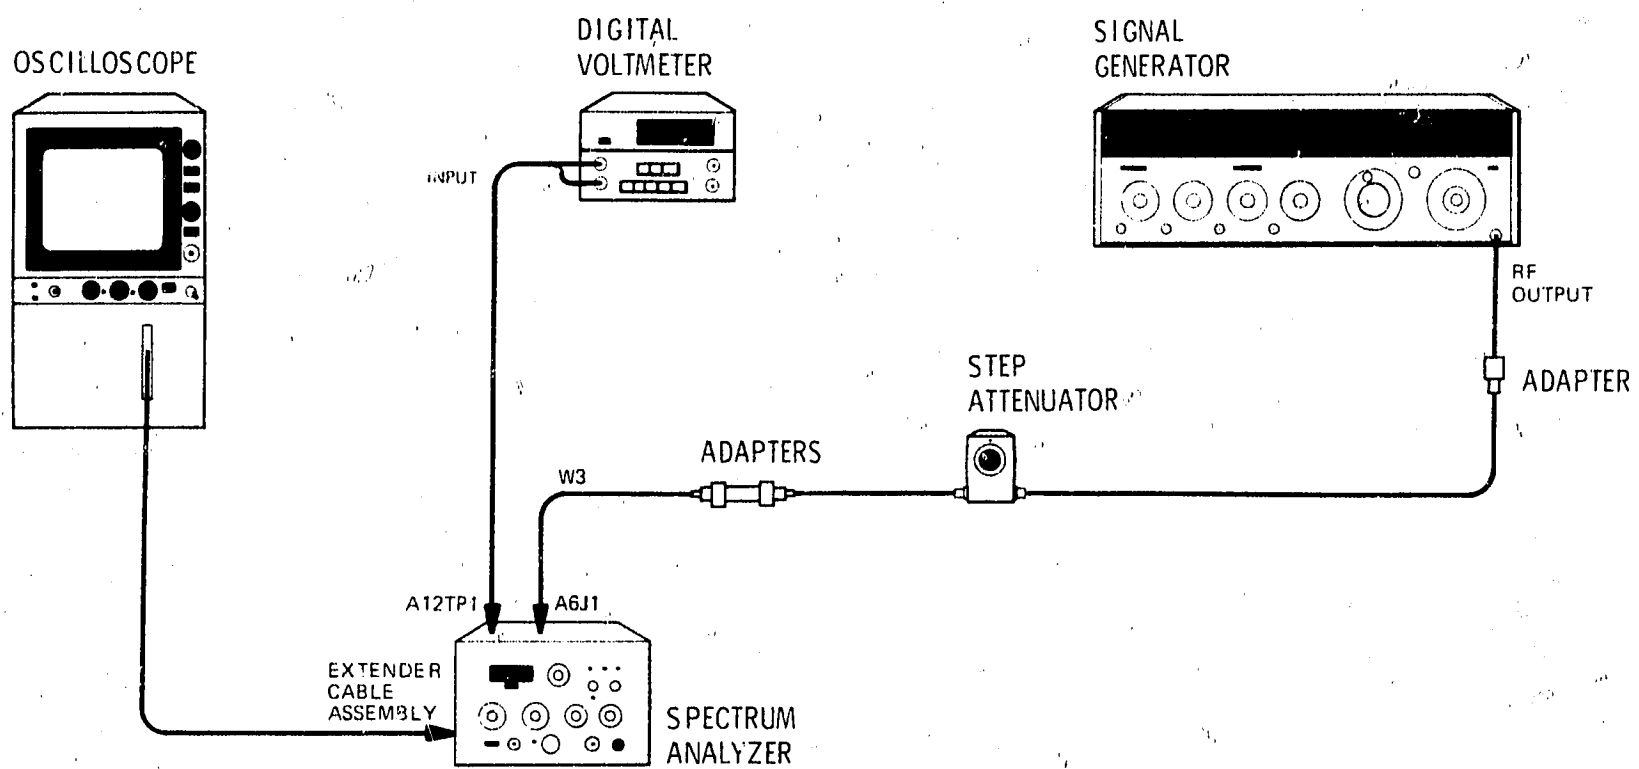

Figure 5-9: Log Amplifier Log and Linear Adjustments Test Setup
2. Connect equipment as shown in Figure 5-9. Set signal generator frequency to 21.4 MHz and output level to -30 dBm. Remove W3P1 from A5 Second Converter Assembly. Connect signal generator output through step attenuator and adapters to W3P1.
10. Reconnect signal generator as shown in Figure 5-9. Set 10 dB/DIV — dB/DIV — LIN switch to 10 dB/DIV and set step attenuator to 40 dB.